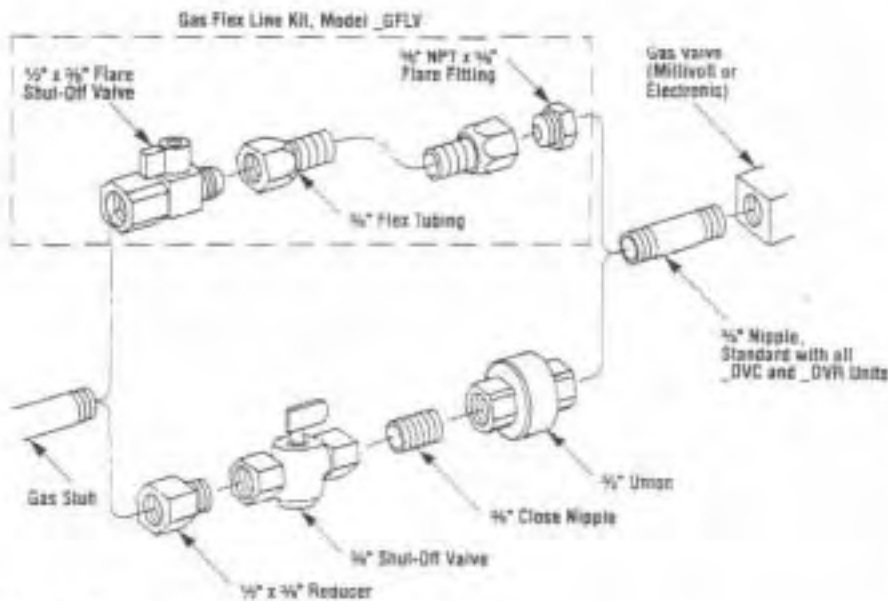

Figure 37
**Step 9. Connecting Gas Line** - Make gas line connections. All codes require a shut-off valve mounted in the supply line. Figure 37 illustrates two methods for connecting the gas supply. The flex-line method is acceptable in the U.S., however, Canadian requirements vary depending on locality. Installation must be in compliance with local codes.